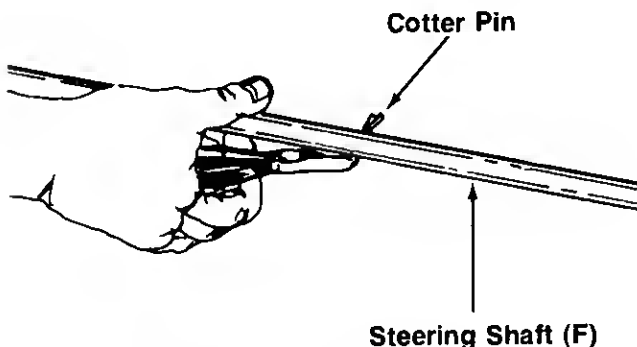

FIGURE 2.—Model 13504 Only
1. Insert the cotter pin into the hole on steering shaft (F). Secure in place by bending the ends of the cotter pin in opposite directions. See figure 2.